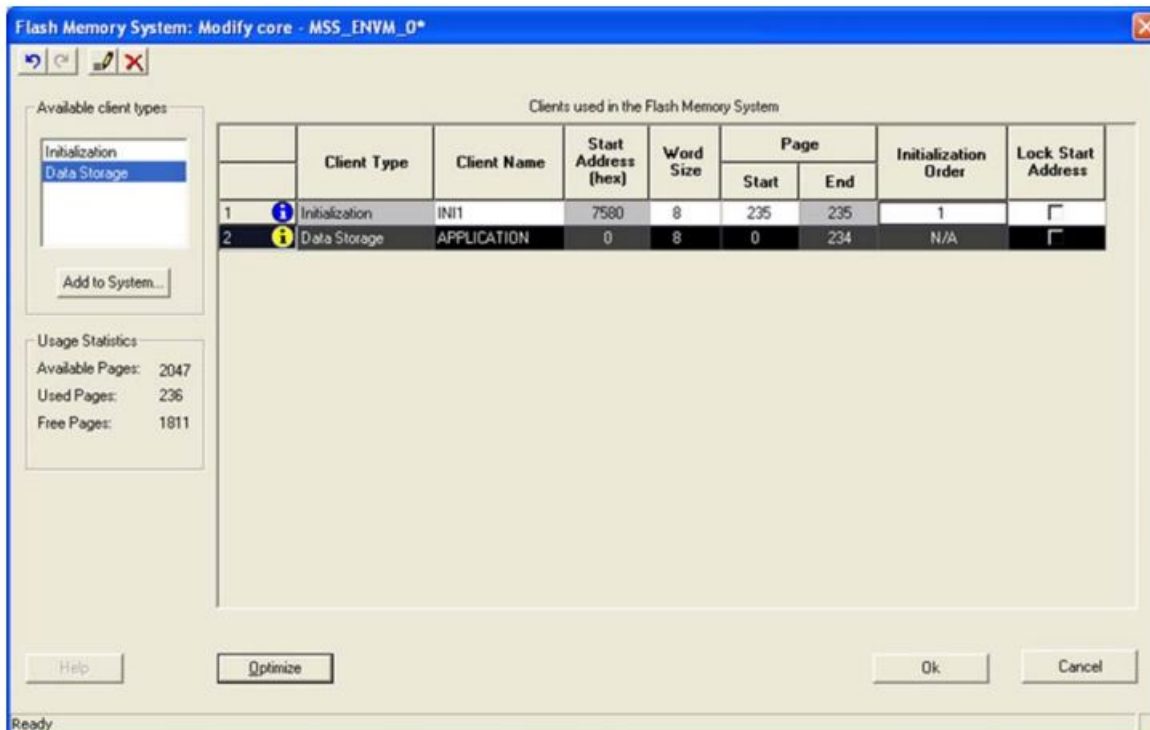

Figure 1-1 • eNVM GUI
- Use the Optimize feature to resolve the conflicts on overlapping base addresses for clients. This operation will not modify the base addresses for any clients that have Lock Start Address checked (as shown in the Figure 1-1).